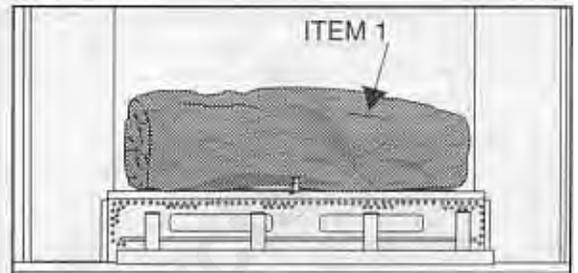
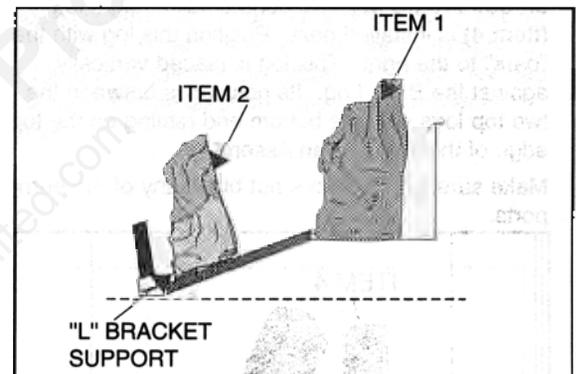

Figure 60
Figure 61
2. See **Figure 60**. Place the Back Log (**Item 1**) on the Back Log Support ensuring that the log is up against the back of the ignitor/pilot assembly. The flat surface of the log will sit on the Back Log Support with the split side of the log facing front. (See **Figure 61**.)